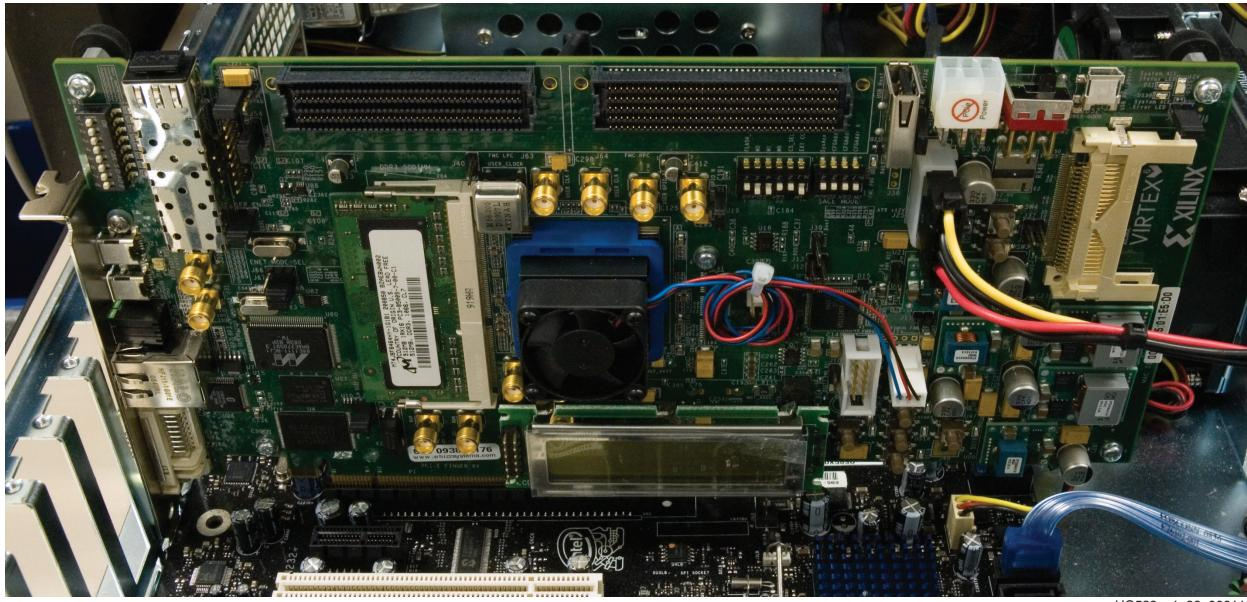

Figure 1-29: Board Insertion Location
All jumpers on the ML605 should remain set to the factory default. As viewed from left-to-right in Figure 1-29, S2 is set to 011001. This will configure the FPGA from the Platform Flash XL device using Slave SelectMAP and the onboard external oscillator for CCLK. J42 should also have a shunt on pins 5 and 6 for x8 PCI Express configuration.
7. Insert your ML605 board into a PCIe x8 slot (x16 as shown in Figure 1-29).